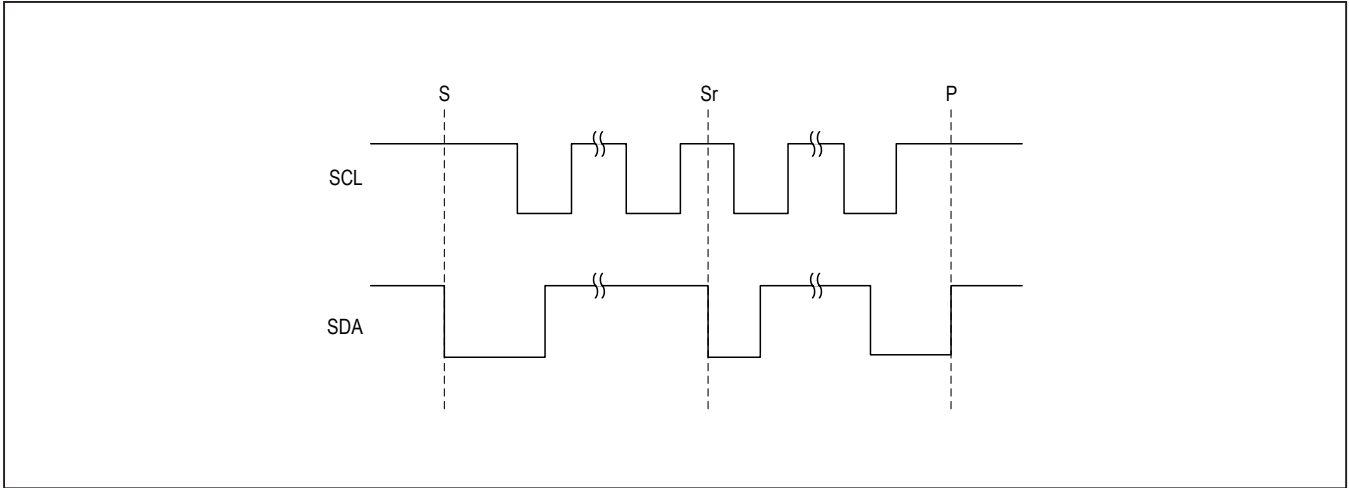

Figure 10. START, STOP, and Repeated START Conditions
A master device initiates communication by issuing a START condition. A START condition is a high-to-low transition on SDA with SCL high. A STOP condition is a low-to-high transition on SDA while SCL is high (Figure 10). A START (S) condition from the master signals the beginning of a transmission to the ICs. The master terminates transmission, and frees the bus, by issuing a STOP (P) condition. The bus remains active if a Repeated START (Sr) condition is generated instead of a STOP condition.